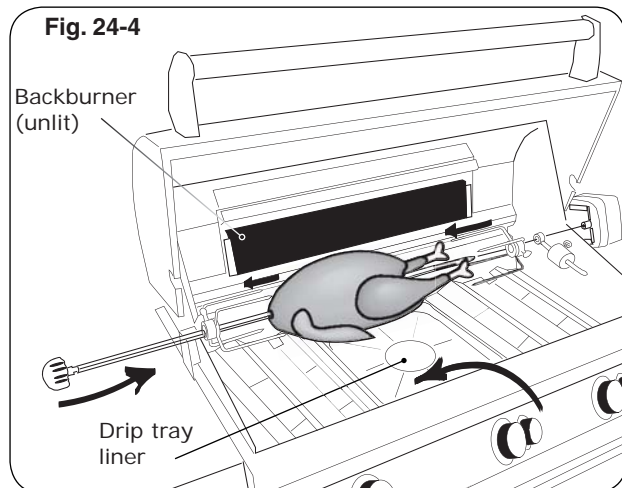

Fig. 24-4
4. Slide the left meat holder onto the rod (and tighten), the meat onto the rod and into the holder, followed by the right meat holder onto the rod and into the meat as shown in Fig. 24-4. Tighten the right meat holder. Be sure the meat is centered and balanced as well as possible.
11. To keep drippings off the burners and simplify cleanup, place Fire Magic® drip tray liners under the meat, if desired (Fig. 24-4).